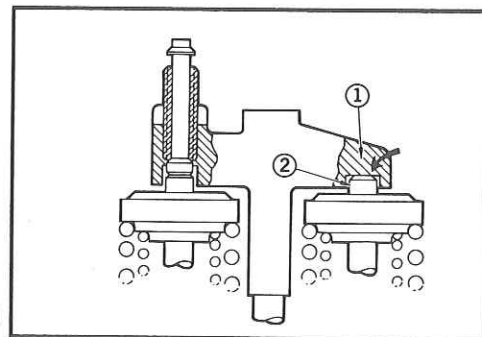

Fig. 10
Be sure the exhaust valve bridge (1) is properly located on the exhaust valve stem (2). See Fig. 10. The valve stem must fit in the counterbore of the bridge on the side without the adjusting screw. Failure to do so will result in serious engine damage.